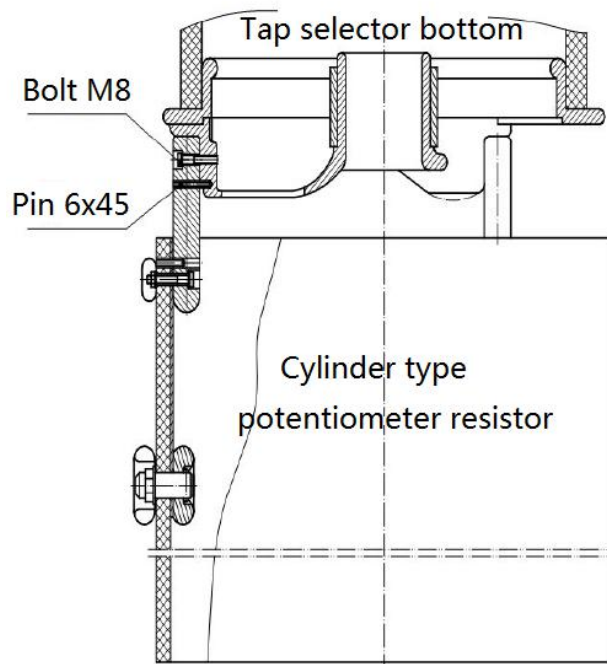

Figure 14
The on-load tap-changer head must be mounted on the tank cover with a mounting flange (see appendix 7) and an oil-resistant sealing gasket (Fig 14).
- (1) Place the diverter switch housing on the water platform.
- (2) Wipe the sealing surface of the switch head and mounting flange.
- (3) Place an oil-resistant seal on the mounting flange of the transformer cover (Fig 14).
- (4) Lift the diverter switch oil compartment and carefully drop it into the opening of the mounting flange.
When the tap-changer head flange is installed on the transformer cover, the mounting flange (see Appendix 7) and the oil-resistant gasket (Fig. 14) must be used.